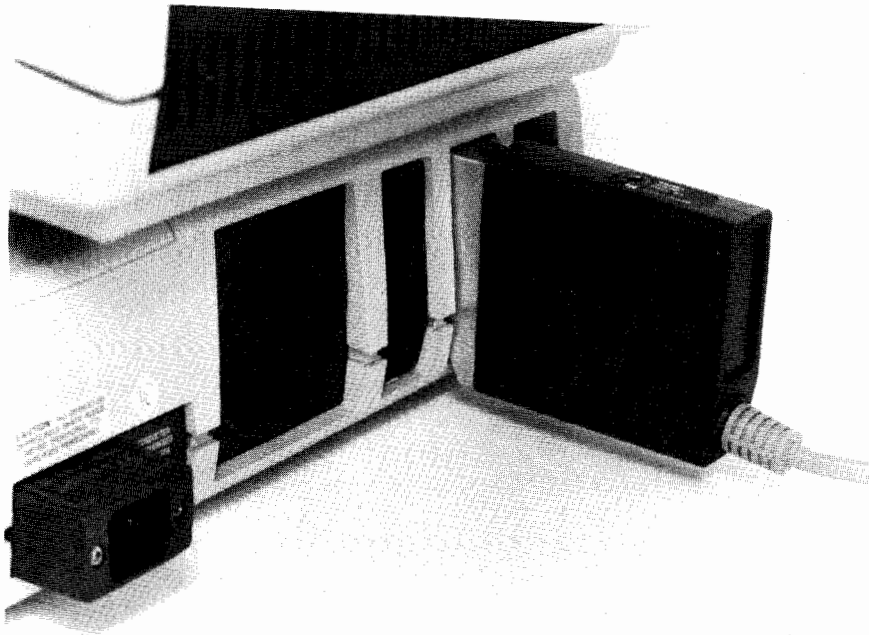

Figure 2-1. Inserting the Interface Housing into the 9835 I/O Backplane.
- Insert the interface housing into any of the three I/O slots in the back of the computer. See Figure 2-1.